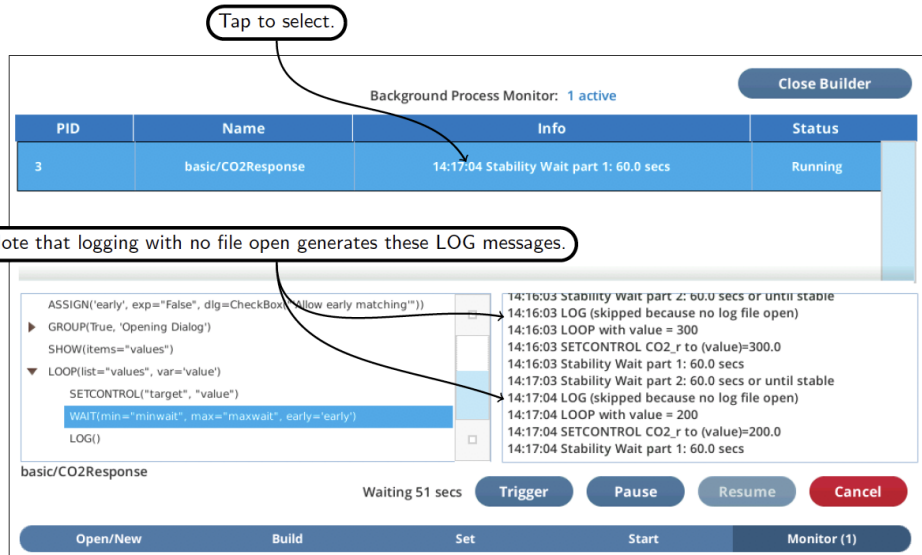

Figure 2-12. The program we first launched has been busy while we were the second program.
- 8 Now tap the remaining process that we launched at the start of the tour, and see in the run log what it has been doing (Figure 2-12 below).